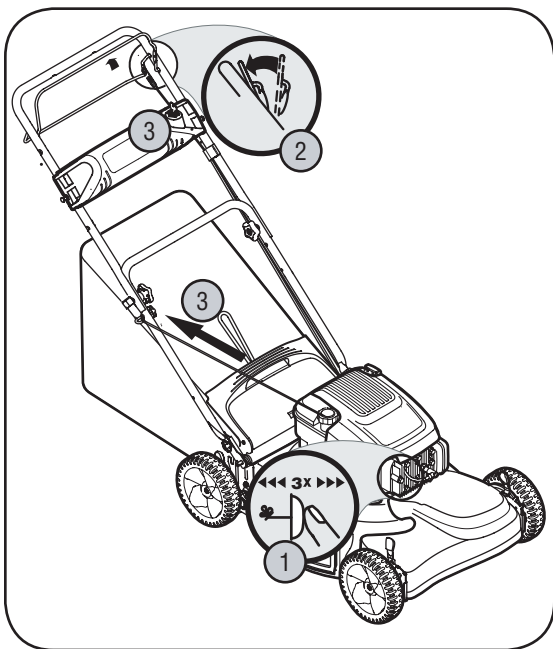

Figure 4-2
2. Standing behind the unit, depress the blade control handle and hold it against the upper handle as shown in Figure 4-2.
**Recoil Start:** Grasp recoil starter handle and pull rope out with a rapid, continuous, full arm stroke. See Figure 4-2. Keeping a firm grip on the starter handle, let the rope rewind slowly. Repeat until engine cranks. Let the rope rewind each time slowly.